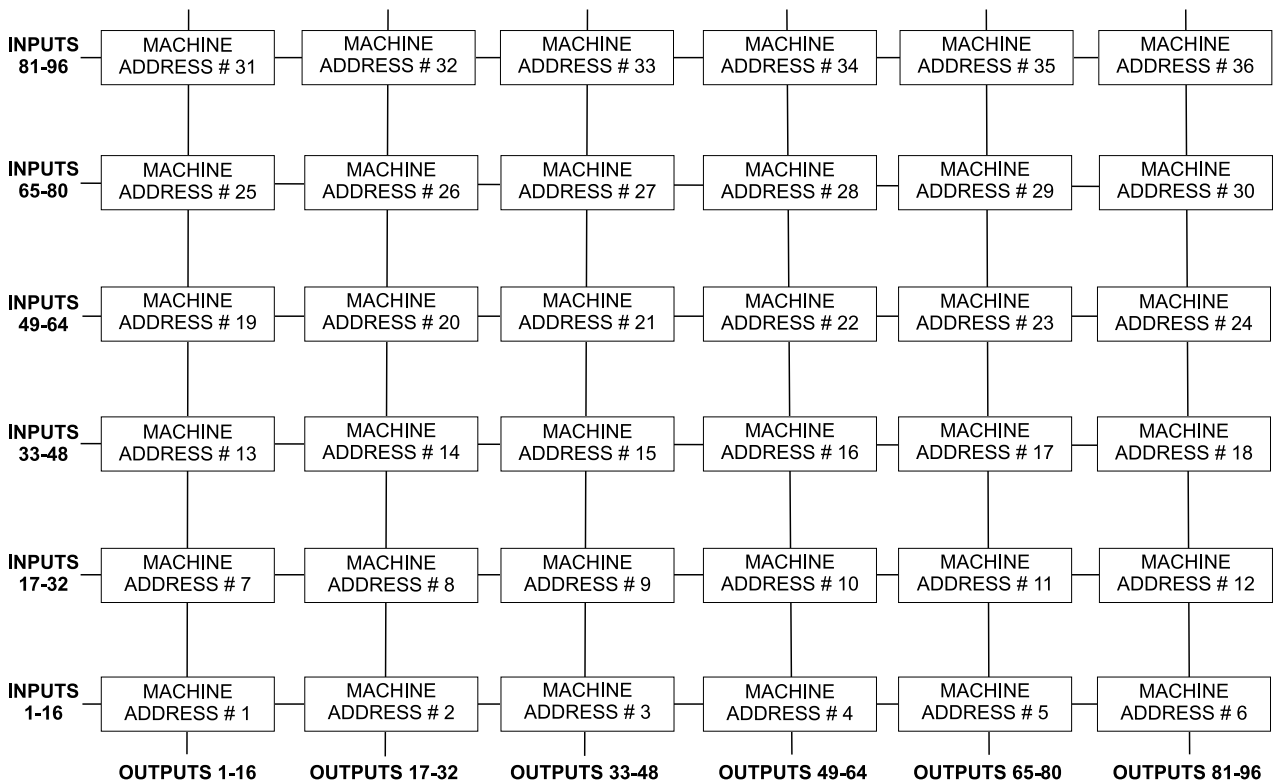
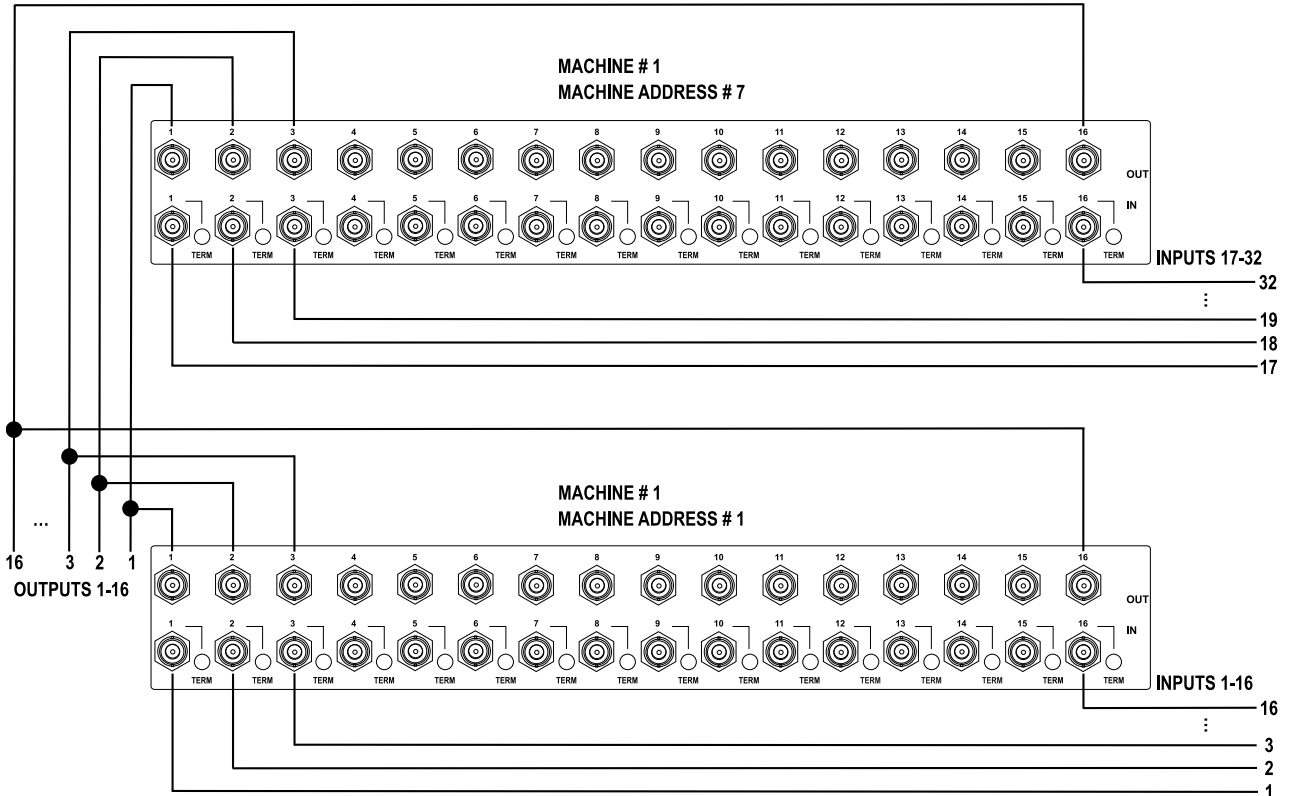

Figure 8: MACHINE ADDRESS # Designation
Figure 9: Connecting the 32x16 Switcher
You can expand the number of inputs and outputs using several **VS-1616V** units1. Set the **MACHINE ADDRESS #** (see section 6.5.2) on each **VS-1616V** unit to define which inputs and outputs are configured to that particular unit when expanding, as the chart in Figure 8 illustrates.
For example, to connect a 48x64 switcher (48 inputs and 64 outputs), you would configure using **MACHINE ADDRESS #** 1, 2, 3, 4; 7, 8, 9, 10; 13, 14, 15 and 16. You can only choose a rectangular2 configuration from the chart in Figure 8.
As can be seen in Figure 8, a 32x16 switcher consists of 2 **VS-1616V** units (**MACHINE ADDRESS #** 1 and **MACHINE ADDRESS #** 7). To assemble, as Figure 9 illustrates:
3 For a single group, this is usually set to # 1, as in the example in Figure 9
2. Set the MACHINE ADDRESS # on one **VS-1616V** unit to 1 and on the other **VS-1616V** unit to 7 (refer to Figure 8).
As can be seen in Figure 8, a 32x32 switcher consists of 4 **VS-1616V** units (MACHINE ADDRESS # 1, MACHINE ADDRESS # 2, MACHINE ADDRESS # 7 and MACHINE ADDRESS # 8). To assemble, as Figure 10 illustrates:
2. Set the MACHINE ADDRESS # to 1, 2, 7 and 8 on each of the 4 units, respectively (refer to Figure 8).
The MACHINE ADDRESS # is determined via the MACHINE ADDRESS Menu command, as section 8.4 describes. The MACHINE ADDRESS # defines which inputs and outputs are configured to that particular unit when expanding, as the chart in Figure 8 illustrates.